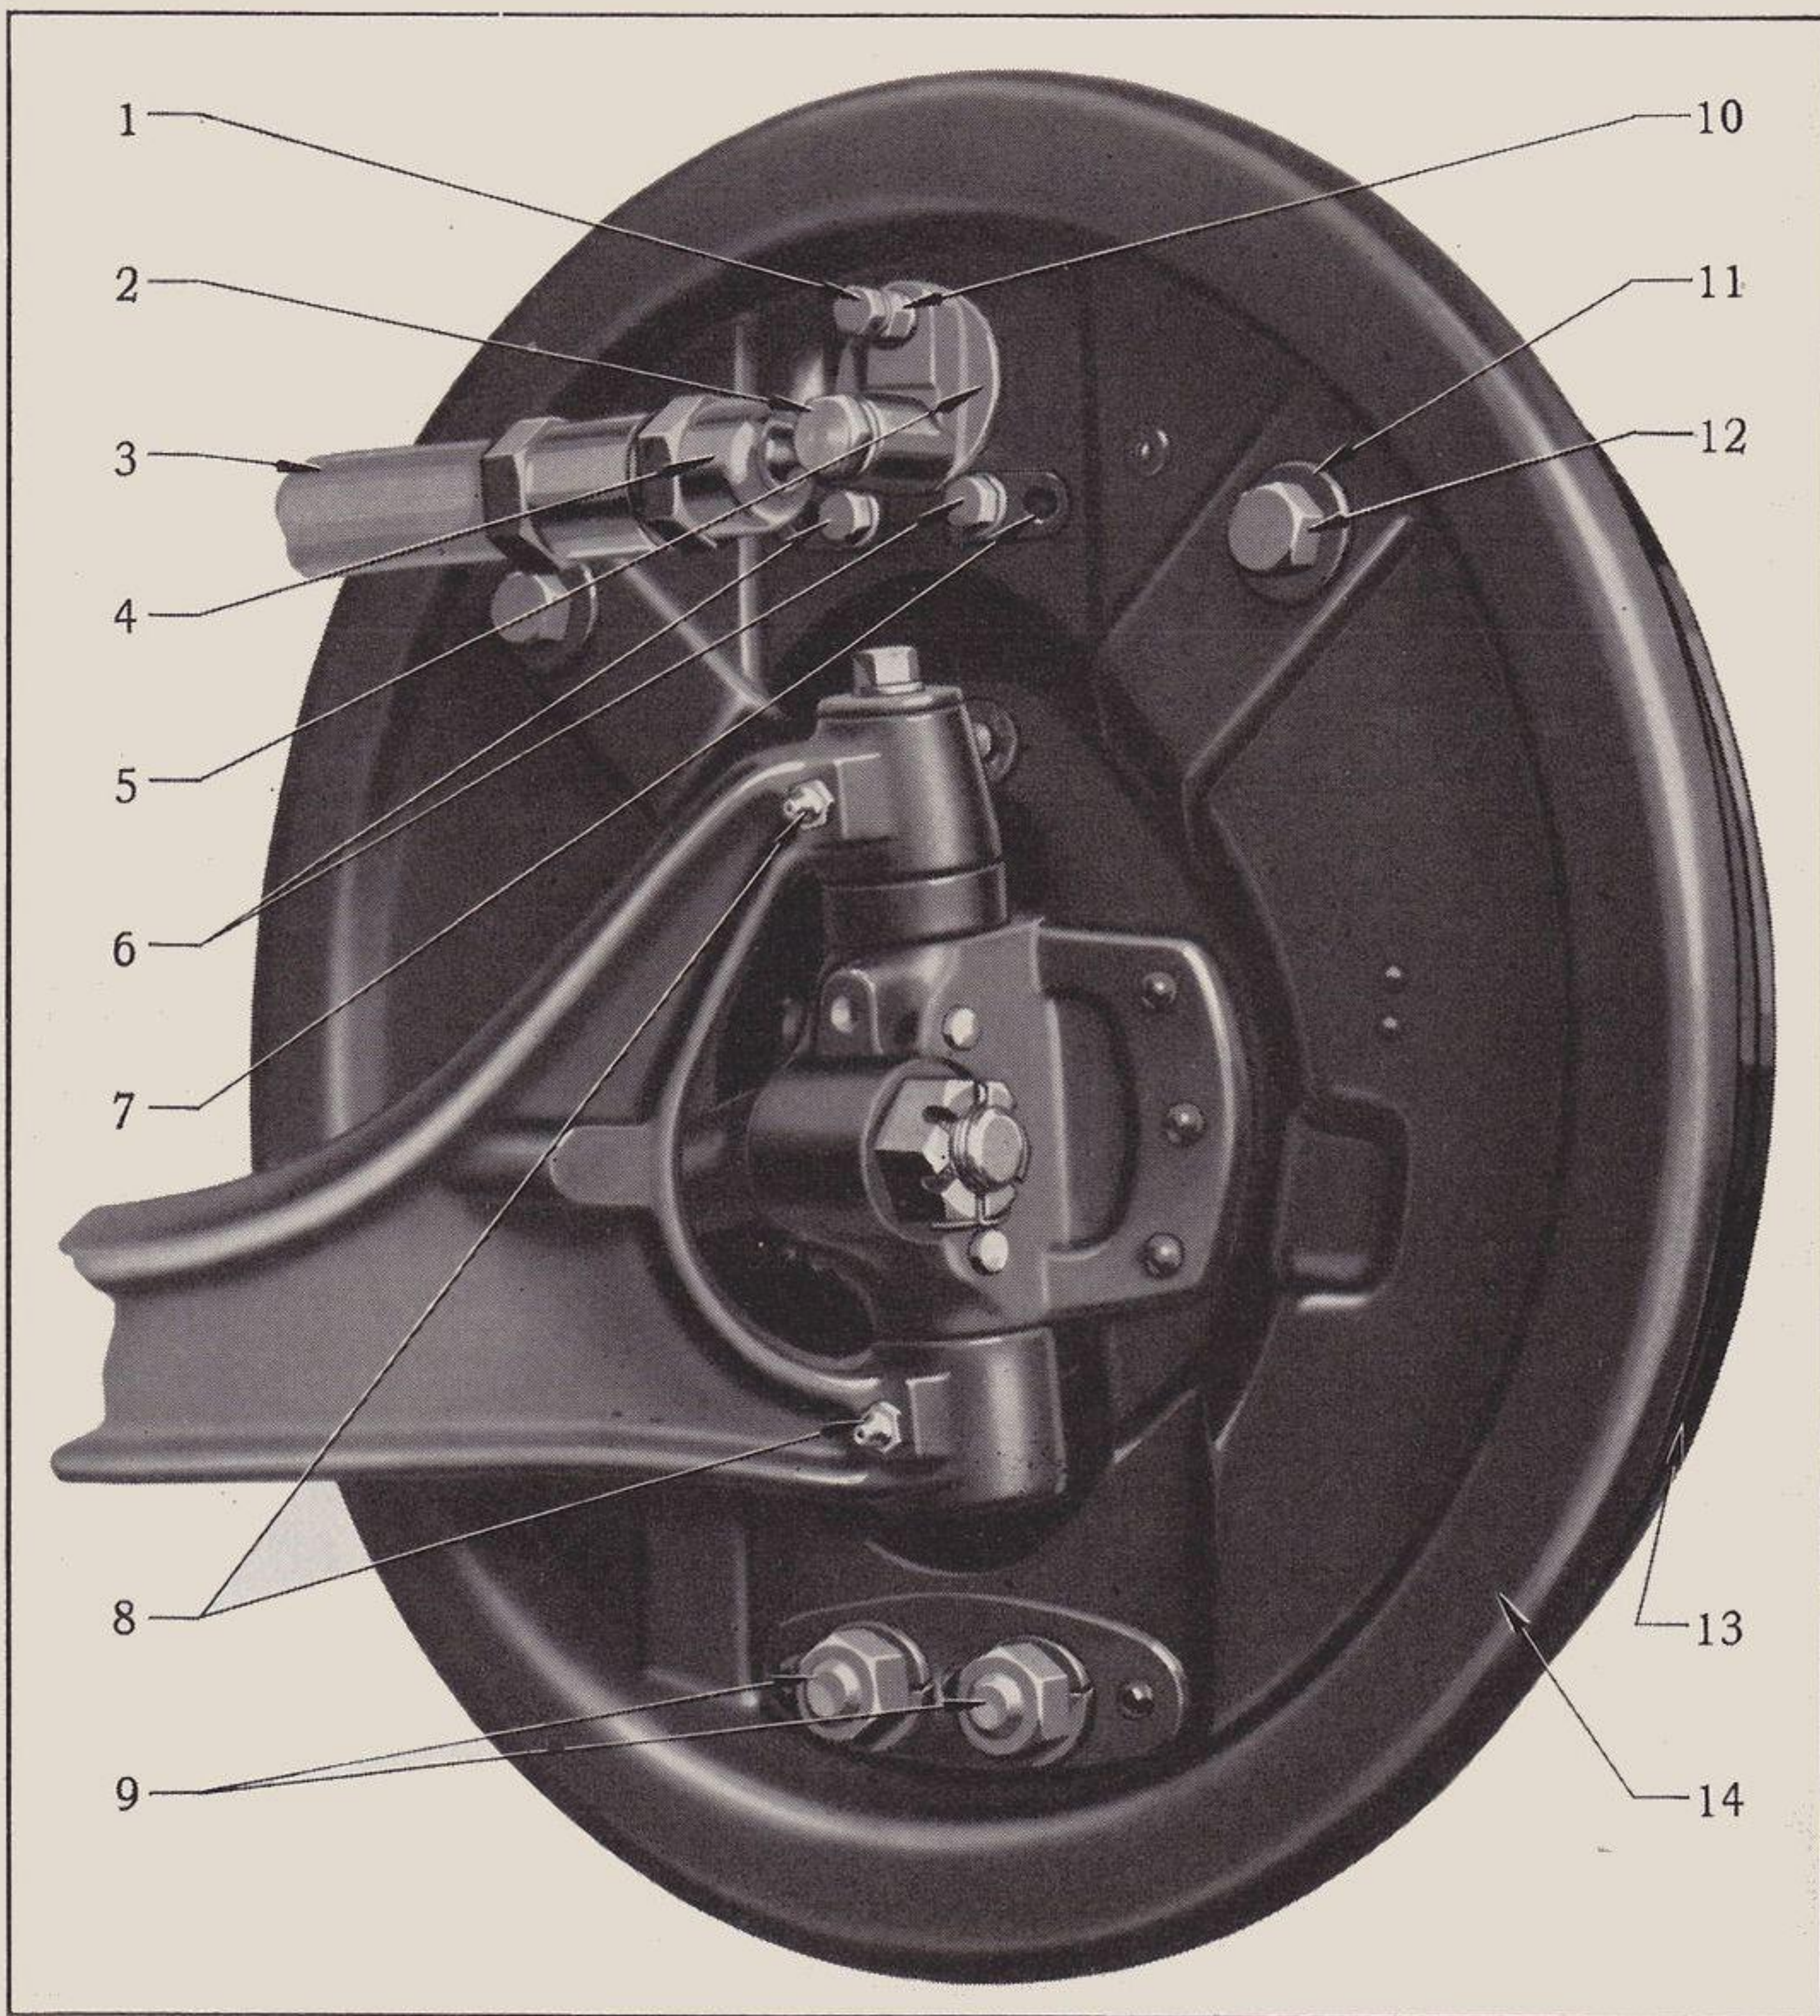

Fig. 7—Brake Shoe Cam Adjustments
A bleeder valve is located at 10, Fig. 7, through which liquid and air are expelled when bleeding the system.
The cap screw (1, Fig. 7) should be removed and the bleeder nipple and hose attached (part of car tool equipment) to the bleeder valve in the
Adjustment of the brake shoes, to compensate for wear of the facing, is made by turning the brake shoe adjusting cams. This is accomplished by turning the nut (12, Fig. 7). The car wheel should first be raised sufficiently to spin free from the floor. Then the nut (12) should be turned until it is observed that the brake shoe facing is just touching the drum. This can best be determined by spinning the wheel and at the same time turning the adjusting nut. Then, when the facing touches the drum, the adjusting nut should be turned in the opposite direction so that the facing is just free from the drum. The adjusting nut is held in position by a friction spring and does not require locking. When one brake shoe has been adjusted the other shoe should be adjusted by turning the other